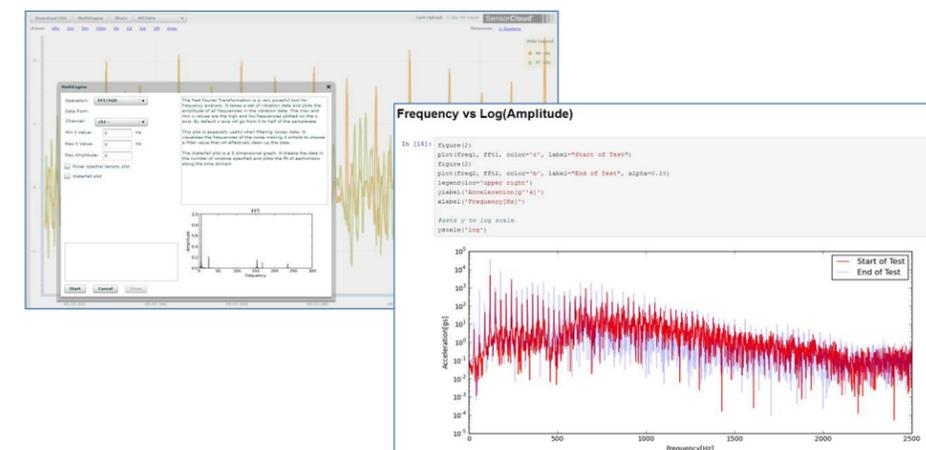

Figure 20 - MathEngine® View
- MathEngine®** - is used to analyze sensor data. Functions include the ability to filter out frequencies, smooth out noisy data, perform math operations such as Fast Fourier Transforms (FFTs), and much more. MathEngine® interfaces with the SensorCloud™ graphing view for faster processing (Figure 20 - MathEngine® View).